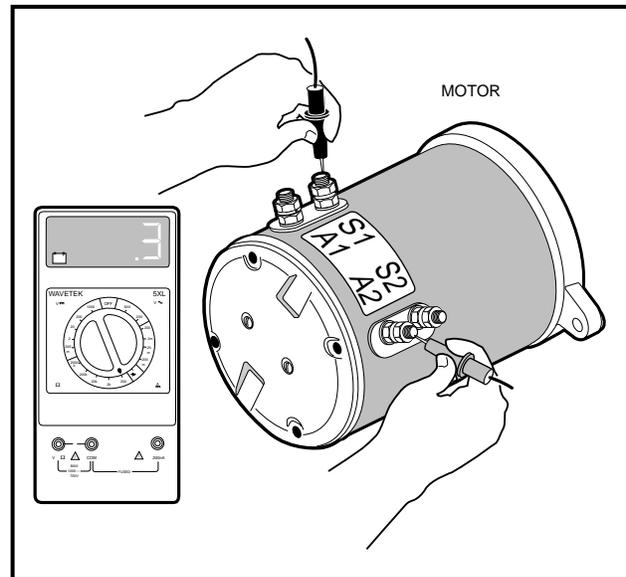

Figure 11-20 Test F&R Continuity (Reverse Position)
4. With Forward/Reverse handle in REVERSE, place red (+) probe on the A2 motor terminal and the black (-) probe on the S1 motor terminal. Meter should indicate continuity. If continuity cannot be obtained, and all wires and connections are correct, replace F&R switch (**Figure 11-20, Page 11-16**).